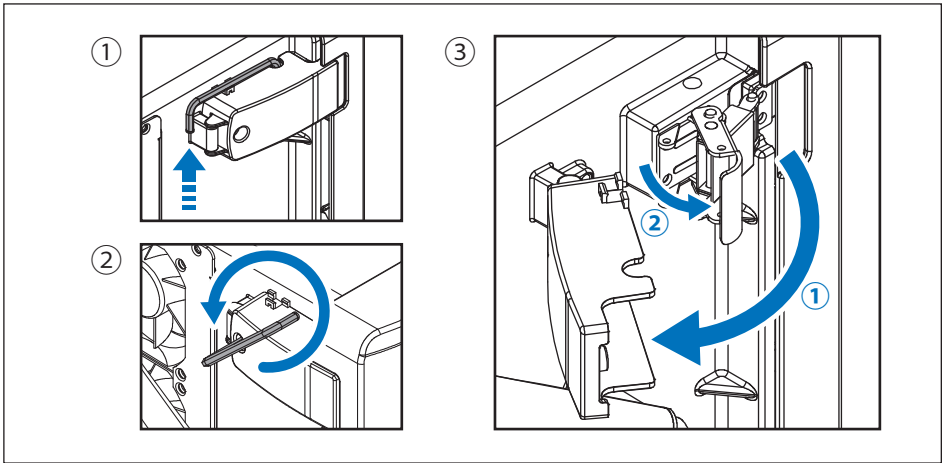

Figure 5-1: Open the door
1. Use the 4mm hexagon wrench to loose the screw of the protection cover, and then release the latch locks as **Figure 5-1**.